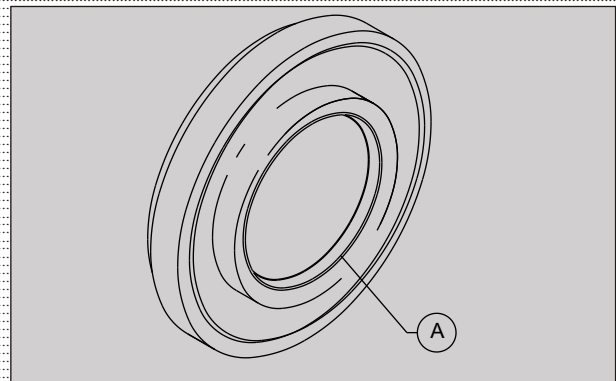

Fig. 3.153
- Damage to the oil seal lip (A) may result in leakage of oil. Inspect for damage and always replace damaged oilseals with the new ones. (Fig. 3.153)